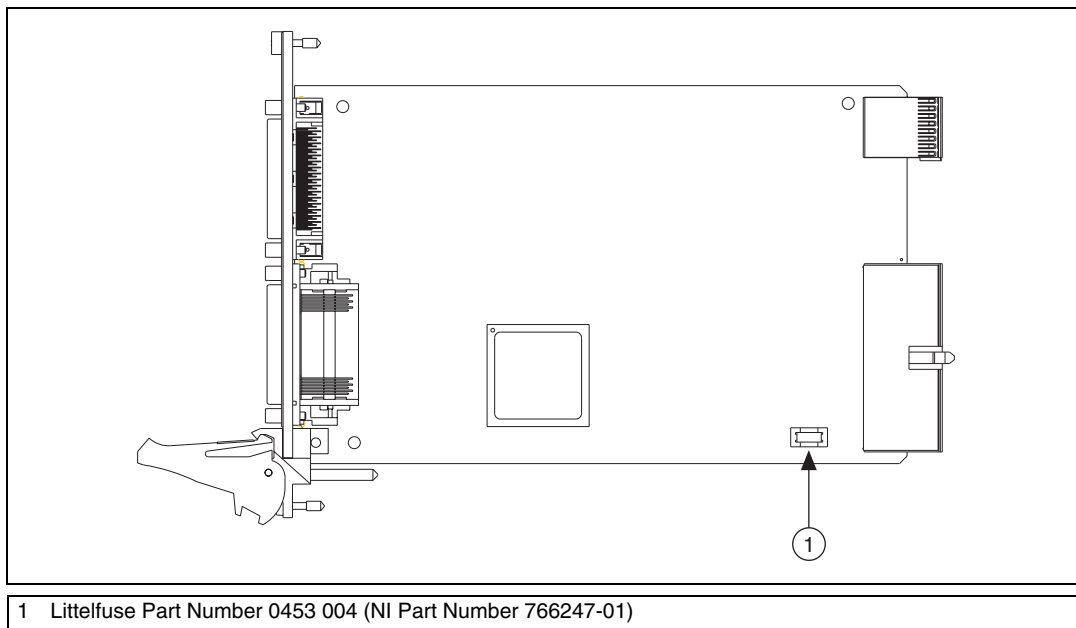

Figure 2-18. NI 784xR/785xR Replacement Fuse Location
3. Replace the broken fuse while referring to Figure 2-18 for the fuse locations.